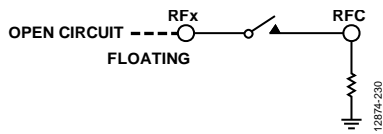
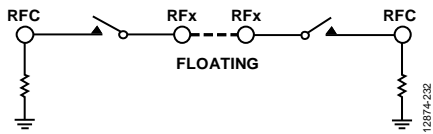
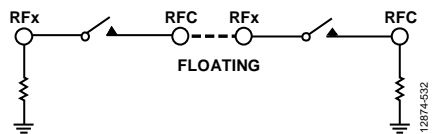

Figure 63. RFx Pins Left Open Circuit
Figure 65. RFx Pins of Two MEMS Switches Directly Connected
Figure 66. RFC Connected to RFx
The ADGM1304 has no internal impedance to ground, and charges can develop on the switch terminals, leading to unreliable switch behavior. To mitigate this behavior, provide a discharge path to all switch nodes. Figure 63 to Figure 66 show examples of cases to avoid where floating nodes can occur when using the switch. Conditions to avoid include the following:
- Leaving the RFx pins open circuit (see Figure 63).
- Connecting the RFx pin of two switches together directly or connecting the RFC pin to the RFx pin (see Figure 65 and Figure 66).